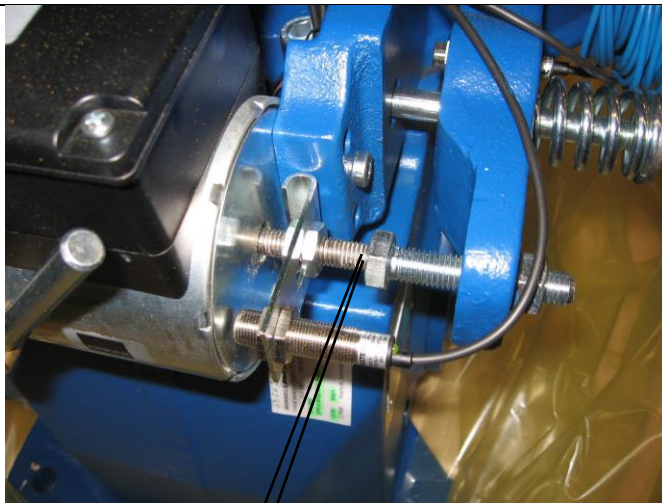

Fig. 10a
(Ref. 6.4.6 and Fig. 10a + 10b).
1. Force the Solenoid Plungers back and measure the clearance between the Plungers and the Pressure Bolts (Fig. 10a + 10b).